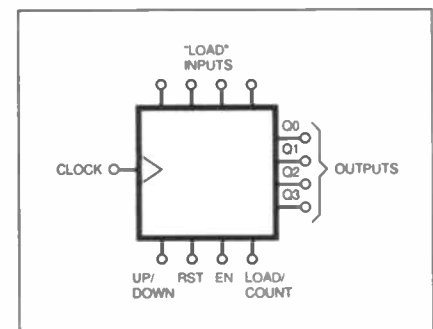

Fig.3. Control pins of a typical pre-settable counter.
**Pre-settable Counters:** Some counters enable us to "load" a value into them. They will then count from this value next time they are clocked in "count" mode. Often a *control input* is used to select either load or count (e.g. 0 = load, 1 = count) and the clock either transfers the input data to the outputs (or counter state) or makes the counter count, depending on the mode input. Examples include: 4029, 4522, 4526, 74160, 74161, 74162, 74163, 74196 and 74197. Fig.3 summarises these features.